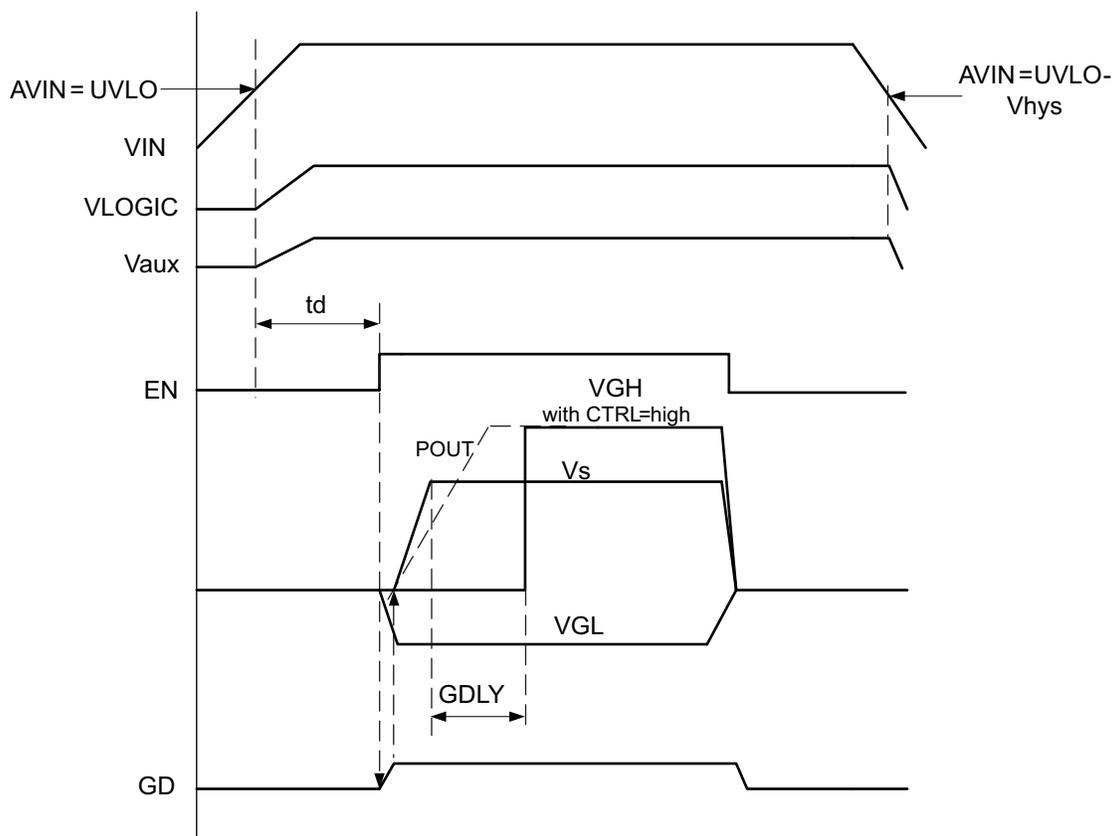

Figure 21. Power Up Sequencing
The device has an adjustable start-up sequencing to provide correct sequencing as required by LCD. When the input voltage exceeds the undervoltage lockout threshold, then the step-down converter and LDO controller start-up at the same time. As the enable signal (EN) goes high, the negative charge pump starts up followed by the boost converter V_s starting at the same time as the positive charge pump. See the typical curves shown in Figure 18, Figure 19, and Figure 21.
If no logic control signal is available, it is also possible to connect a capacitor to this pin to set the delay time t_d as shown in Figure 21 and Figure 19.